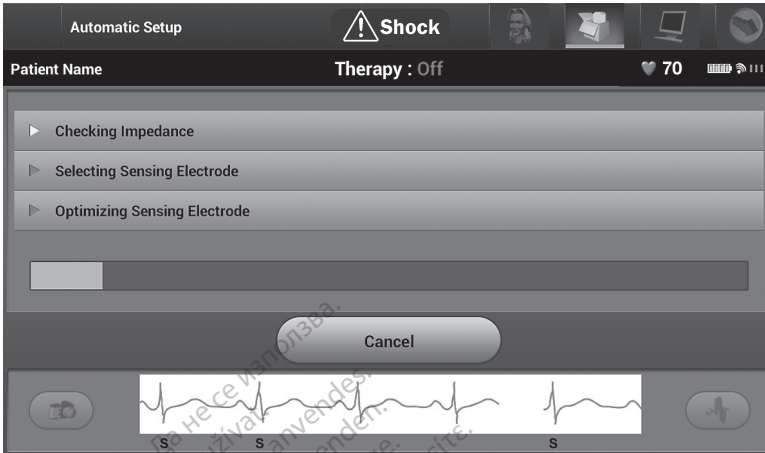

Figure 21. Measuring electrode impedance
3. Select the Automatic Setup icon in the Navigation Bar. The Automatic Setup screen appears (Figure 21 Measuring electrode impedance on page 32).
The overall progress of the Automatic Setup process is shown in the status bar (Figure 21 Measuring electrode impedance on page 32). When each function is complete, the arrow next to the function moves to a down position.